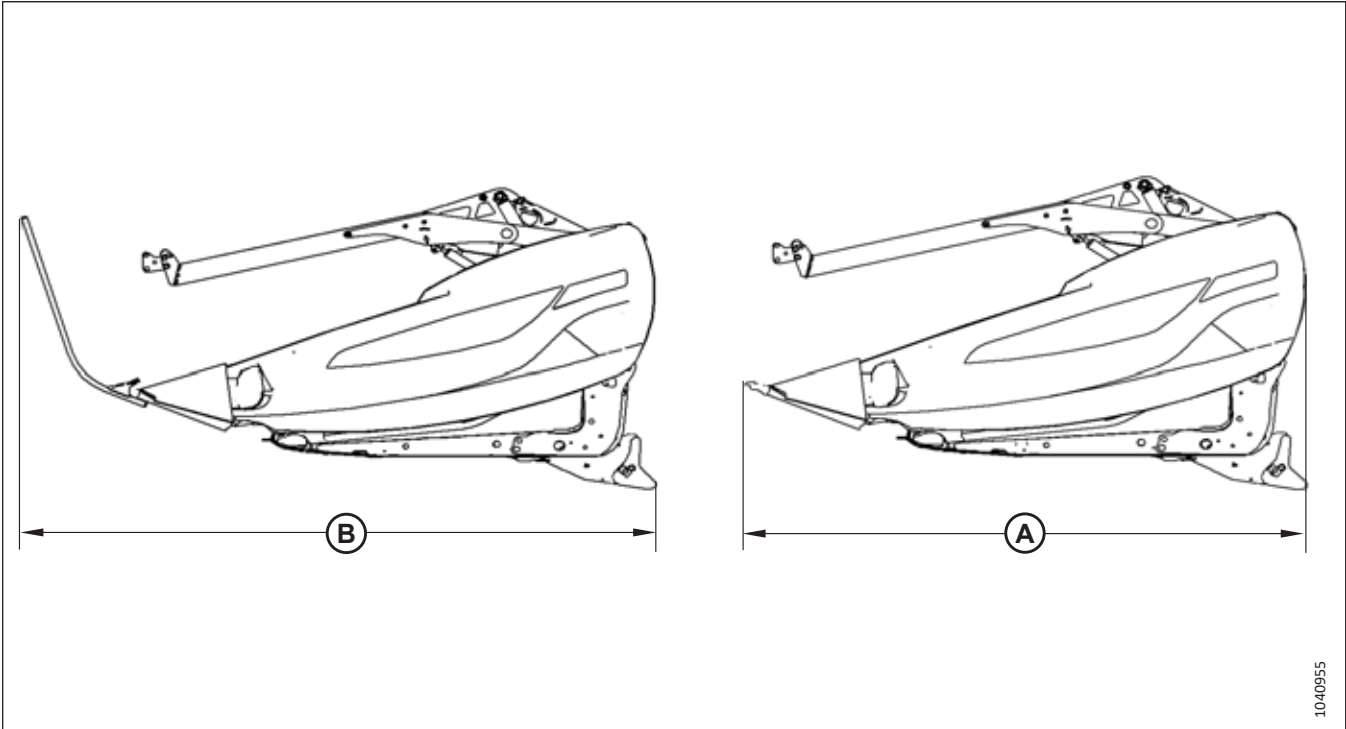

Figure 2.1: Header Width
1. Refer to Figure 2.1, page 40.